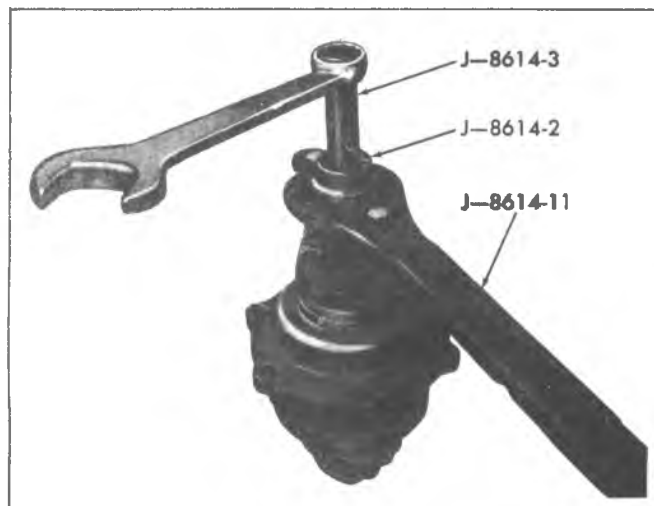

Fig. 9E-Removing Flange
4. Thread end of J-8614-3 into small O.D. end of J-8614-2. Then with J-8614-11 installed as a step 2, insert J-8614-2 into J-8614-11 and turn it 1/8 of a turn to locked position. Remove flange by turning J-8614-3 while holding J-8614-11 as shown in figure 9E.